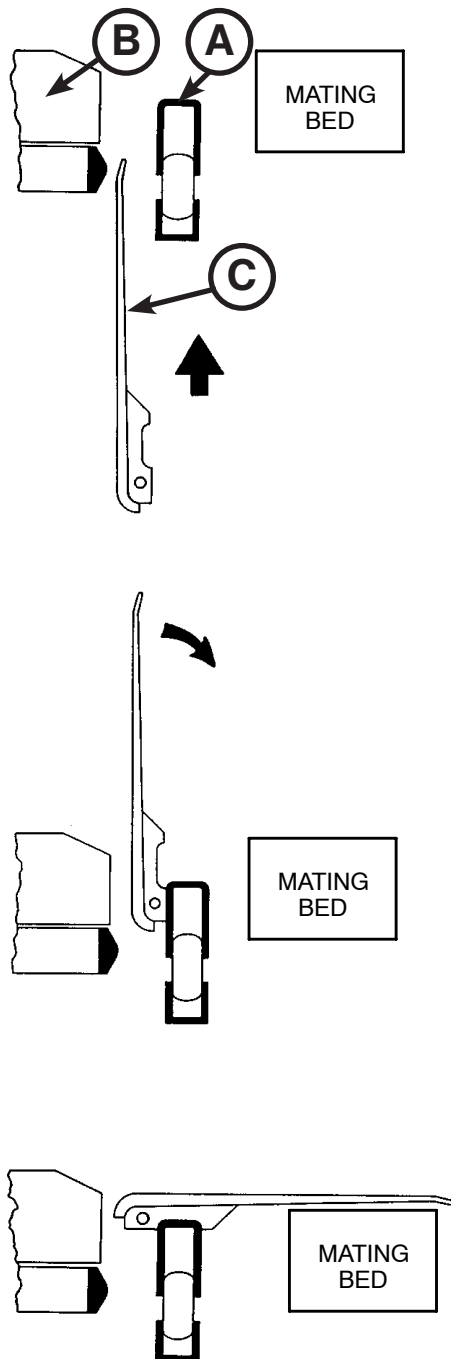

Figure 6.1: Transfer Board
Note: The transfer board (C) is located between the siderail (A) and the mattress (B) as shown in Figure 6.1.
1. Lower the siderail (A) to the lowest position.
2. Raise the transfer board (C) from the bottom while lifting from the top.